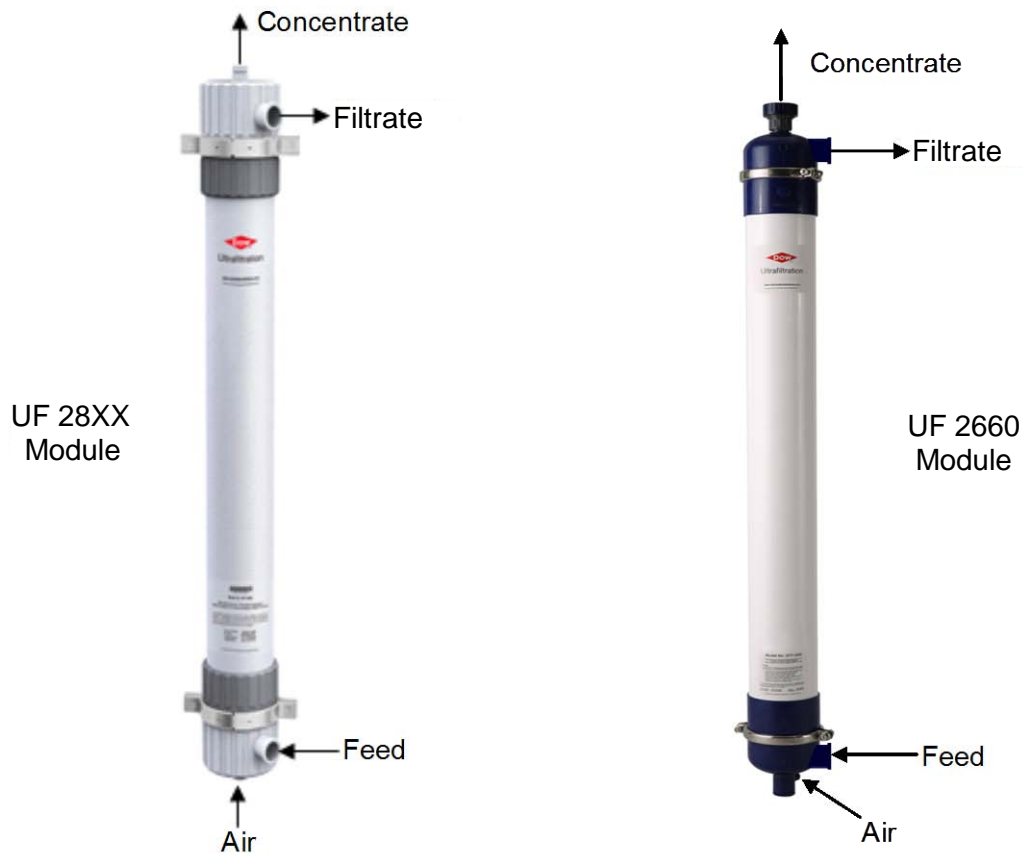
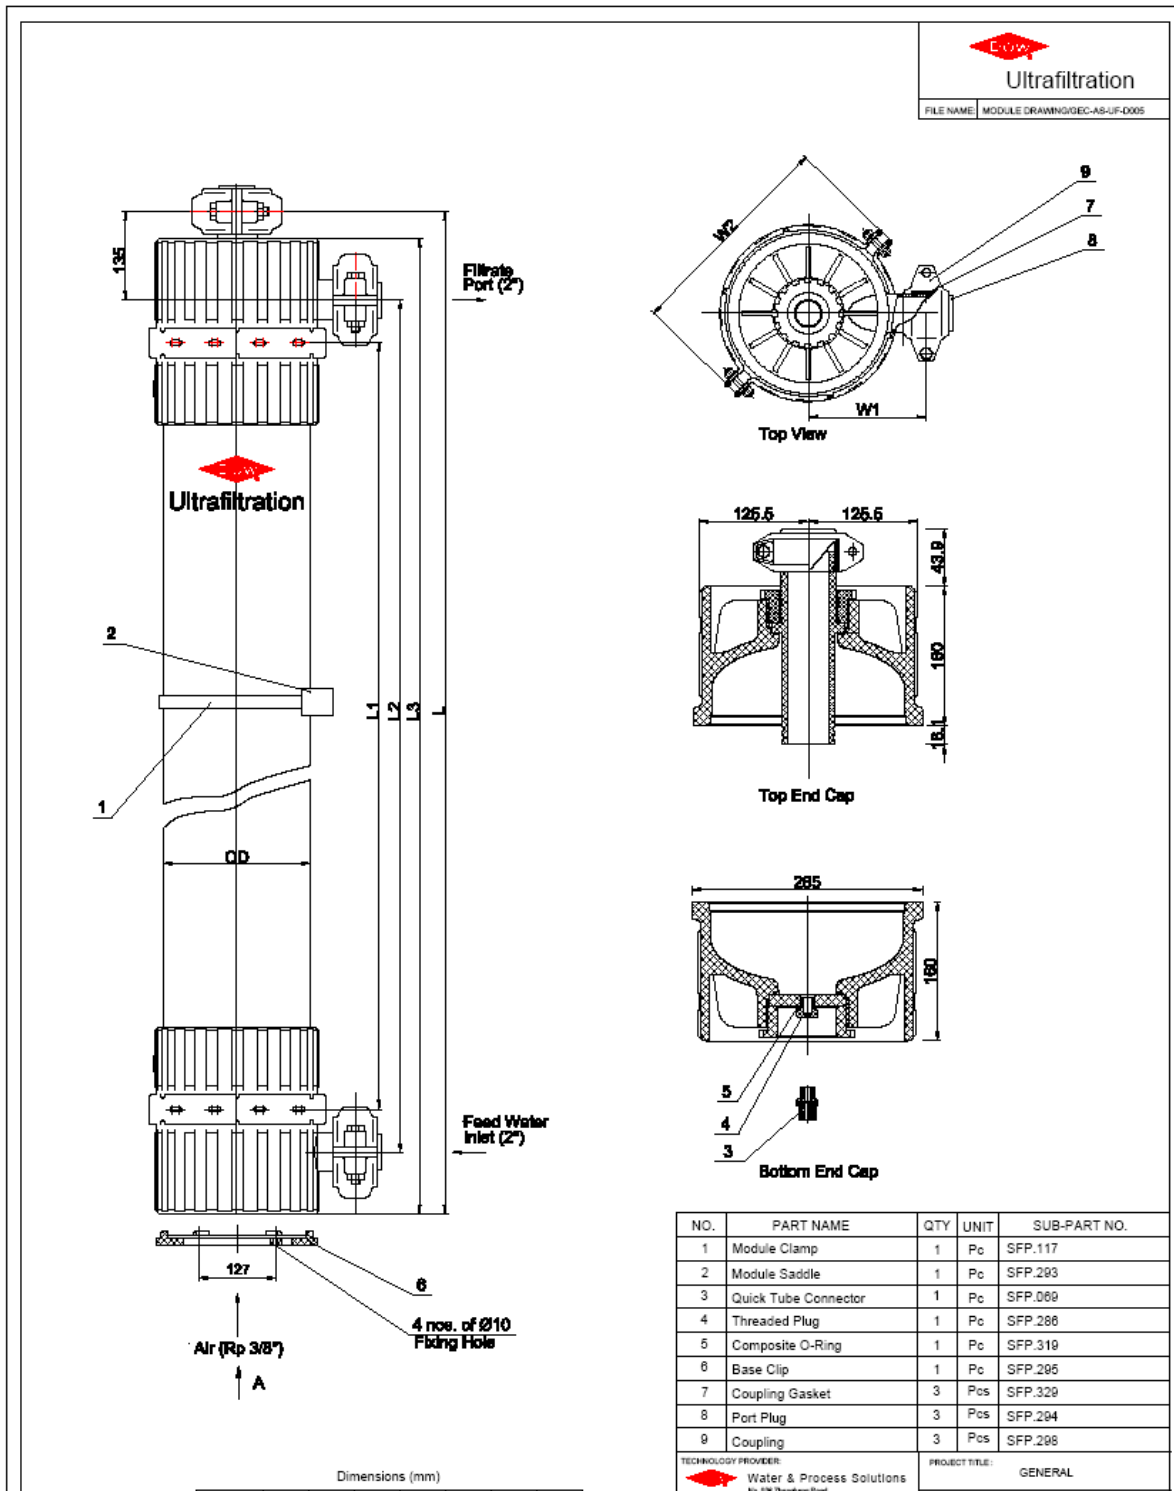

Figure 3: Photograph of a 28XX Series Module and a 2660 Module
Figure 4: SFP 2860 and 2880 Module Reference for Dimensions
The specifications for each module are shown in Table 2 below and as depicted in Figures 4 through 6.
2. Install Saddle (4) to Skid Frame (2). Drill one 7 mm diameter hole on Skid Frame. Position Saddle nipple into one 7 mm diameter hole on Skid Frame. Tap Saddle with rubber mallet to mount the nipple into the hole. Refer to Figure 3, Saddle and Clamp Detail.
3. Partial Install of Module Clamp (5). Drill two 10 mm diameter holes on Skid Frame. Fix one side of clamp with Bolt (6) (M6-Size, 80 mm length, by Dow). Refer to Figure 3, Saddle and Clamp Detail.
4. Drain Preservative. At Opening 1, remove Concentrate Blind (7). At Opening 2 and 3, remove Permeate and Feed Blinds (8, 9). Place UF Module in vertical position to drain out preservative. Appropriate Environmental, Health, and Safety measures should be taken for handling and disposal of the preservative. Concentrate Blind, Permeate and Feed Blinds may be retained for future use.
5. Mount UF Module (10) to Base Clip (1). Chain block or hoist is recommended for handling and positioning of UF module. Base of UF Module will snap into Base Clip.
6. At Opening 1, use Union (11) to connect UF Module concentrate outlet.
7. At Opening 2 and 3, use Coupling (12) and Coupling Gasket (13) to connect UF Module part with T-Adapter (14) (by Customer). The holes for Couplings should be tightened to torque of 8 to 10 N*m. The length of T-Adapter will depend on pipework design of the Skid Frame. Refer to Figure 4, T-Adapter Detail.
8. At Opening 4, remove Threaded Plug (15), and fit Quick Tube Connector (16) with Composite O-Ring (17) at the bottom of UF Module. Threaded Plug may be retained for future use.
9. Complete Install of Module Clamp (5). Secure Module Clamp (5) around UF Module (10), and secure into Saddle (4) and Skid Frame (2) with Bolt (6) (M6-Size, 80 mm length, by Dow). Refer to Figure 3, Saddle and Clamp Detail.